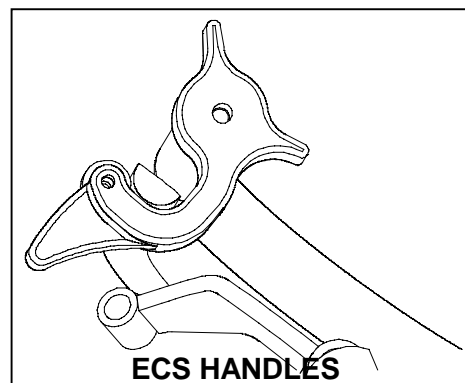

FIGURE 16
1. With rear of machine still on jack stands and engine running at full throttle, move the speed control lever to the midway position. Move the respective drive lever upward until it reaches the **neutral** position and engage neutral lock latches. See Figure 16. If the tire rotates in either direction, the length of the drive lever link will need to be adjusted.